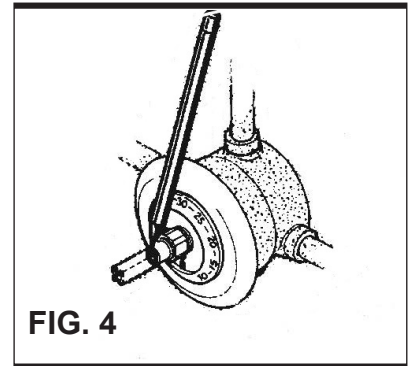

FIG. 4
10. Screw the bushing (12) onto the threaded tube. (Bushing is shipped inside the pointer assembly) Slide the square tube (10) into the bushing and drive it completely onto the control spindle. Fig. 4
11. Make a cutting mark on the square tube flush with the bushing. Fig. 4 Remove the square tube, cut it, and debur carefully. Replace the tube into the bushing and push it all the way into its recess.